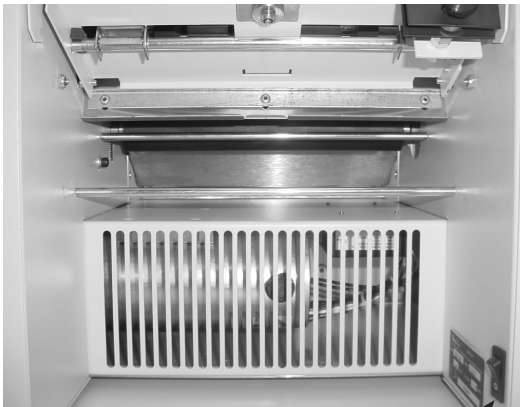

Figure 2
3. Plug in cord and turn power on (figure 2).